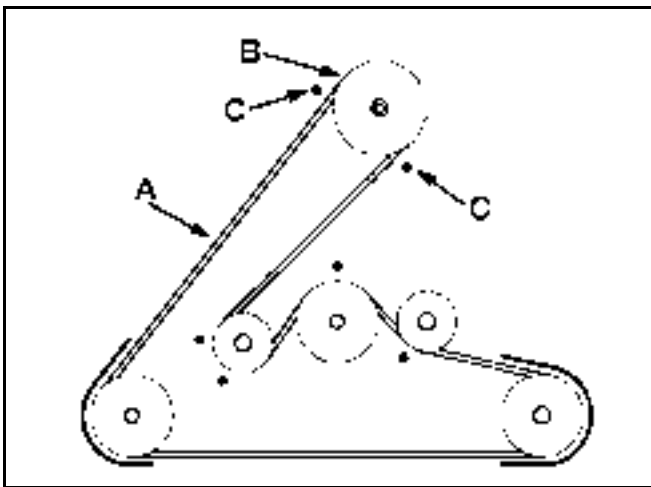

Figure 232
4. Install mower belt onto the lower engine pulley (Figure 232). If you are careful, you can flex the belt guide(s) just far enough away from the pulley to install the belt. If it is too difficult to install the belt, loosen the bolts and nuts securing the belt guides.